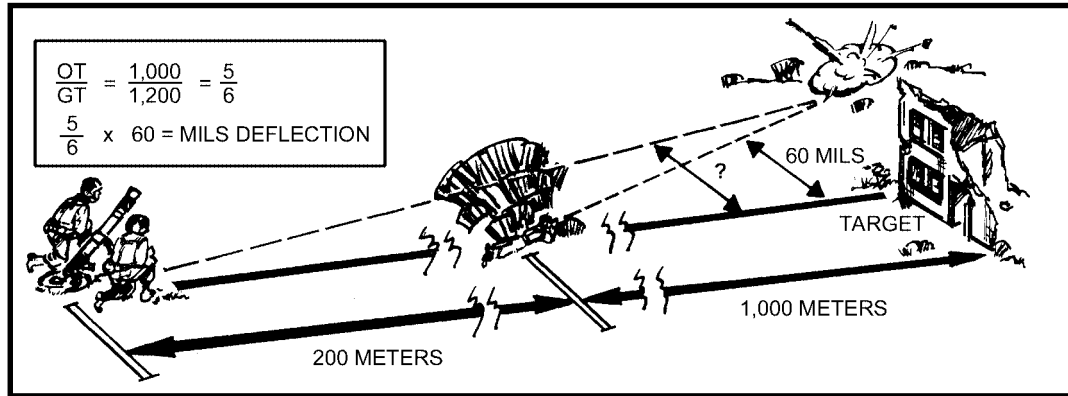

Figure 8-1. Observer more than 100 meters from mortar but within 100 meters of GT line.
(1) When the FO cannot locate within 100 meters of the mortar position, he must be within 100 meters of the gunXtarget line (Figure 8-1). This might prevent him from visualizing the gun-target line and getting within 100 meters of it. If the FO is attacking targets over a wide frontage, he would be required to move often but with limited movement. Therefore, the angle that exists between the mortar-burst line and GT line is not equal to the angle that exists between the observer-burst line and OT line—computations must be made to correct these differences.
(2) For example, if the FO is halfway between the mortar and target, the correction to be made on the sight is one-half his deviation spotting; if the mortar is half-way between the FO and the target, the correction is twice his deviation spotting. As other distances give other ratios, a correction factor must be applied to the number of mils spotted before ordering a deflection change. This factor is a fraction, the numerator of which is the OT distance and the denominator of which is the GT distance.
If the distance from the FO to the target is 1,000 meters, the GT distance is 1,200 meters, and the deviation of the burst from the target, as read by the FO, is 60 mils (Figure 8-1), the correction is—